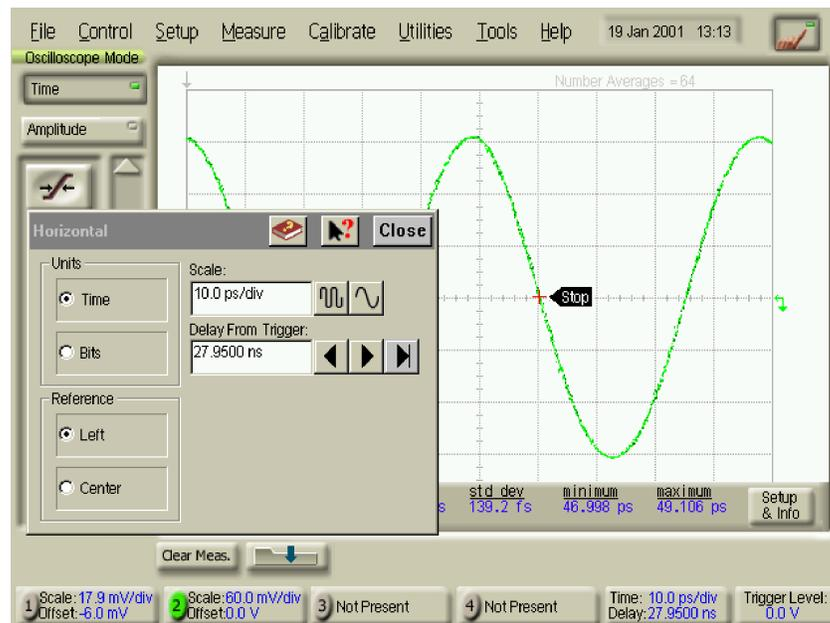

Figure 2-6. Delay Settings for Measuring Time Interval Accuracy
- On the DCA screen, press Time Delay to set the Delay. See Figure 2-6. After changing the delay, press the Clear Display hardkey before making the next measurement.